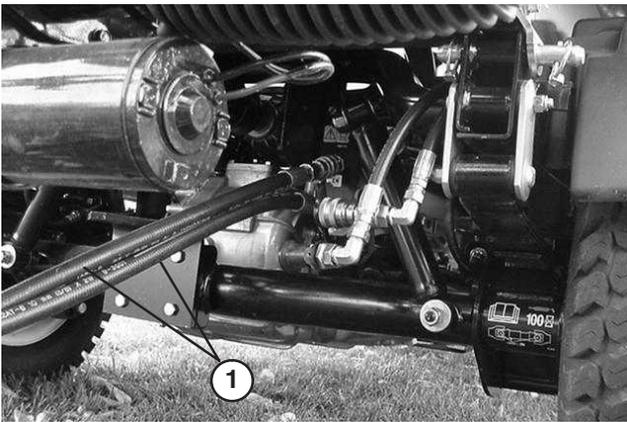

Figure 74
- On the other vehicle, connect the two hoses to the coupler still in the coupler bracket (Connect the top hose to the top coupler and the bottom hose to the bottom coupler (Fig. 74). Cap unused fittings.